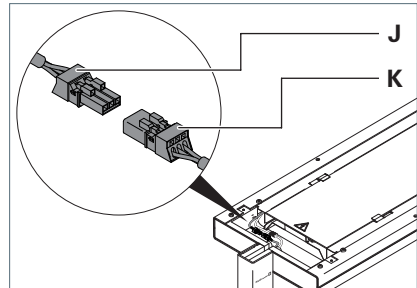

Fig. 5: Connecting the light head, Part 2
- Connect the socket **J** to the plug **K** at the light head, see Fig. 5.